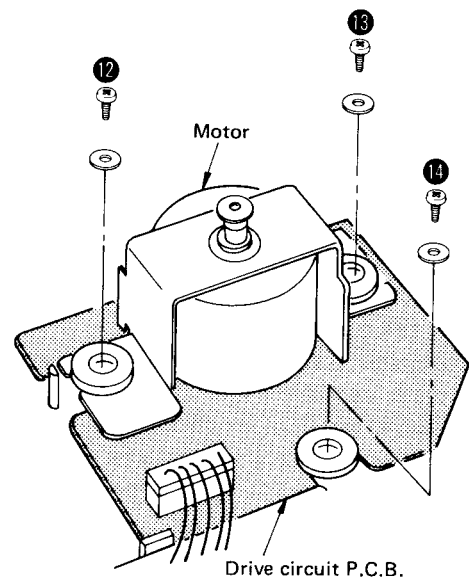

Fig. 10
2. Remove the 3 setscrews (Fig. 10: 12 ~ 14) of P.C.B.